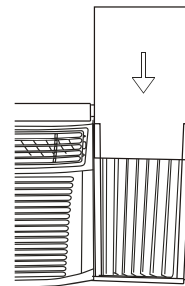

Fig.13
Step 3. Slide the R1 insulation panel into the side curtain, the side with pattern should facing the indoor side. (Fig.13).